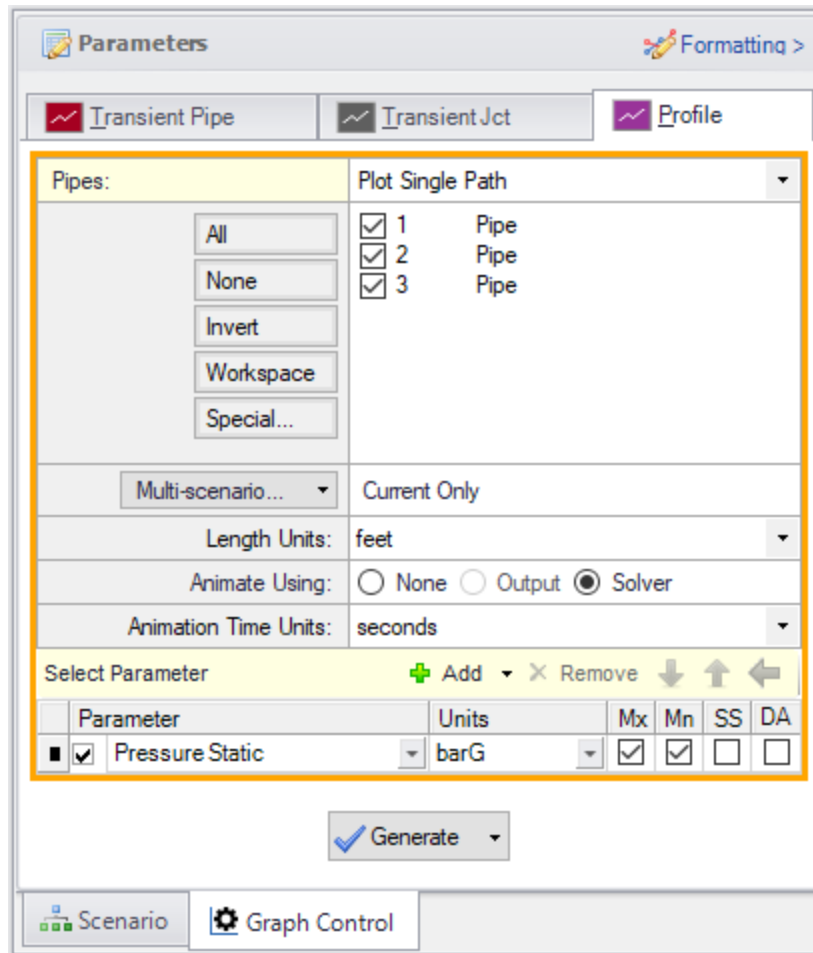

Figure 7: System Pressure Profile Parameters
1. Select the Profile tab on the Quick Access Panel (Figure 7).